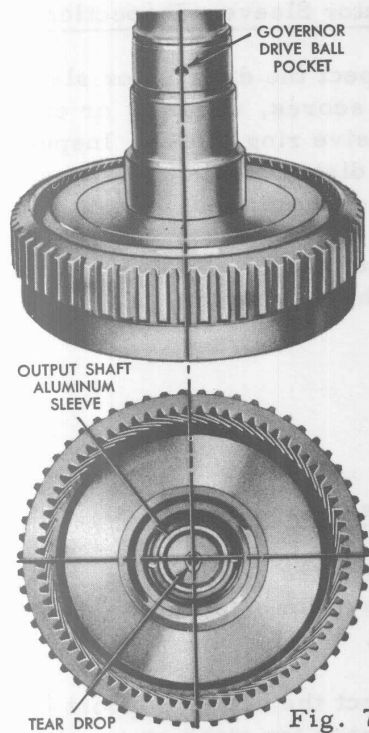

Fig. 7
- ☒ Carefully inspect the output shaft sleeve for alignment with the governor drive ball (Fig. 7).